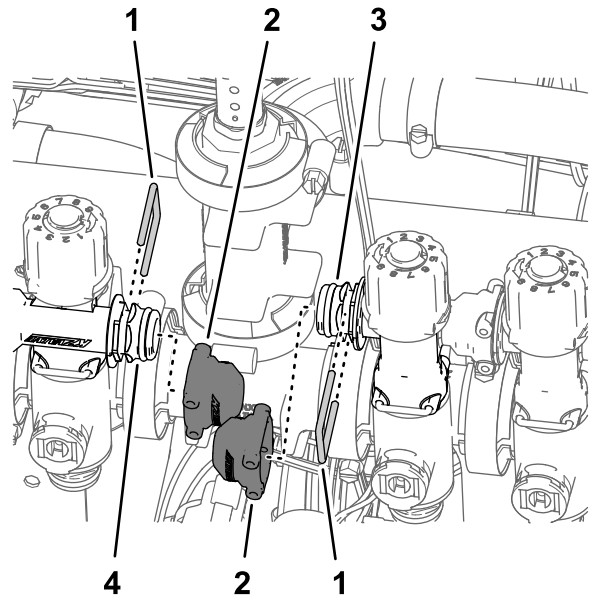

Figure 104
- Assemble the caps onto the quick disconnect fittings of the bypass valves for nozzle-valve 5 and nozzle-valve 6 with the retainers provided with the caps (Figure 104).